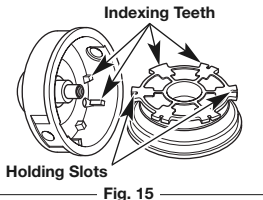

Fig. 15
- Check the indexing teeth and holding slots for wear (Fig. 15). If necessary, remove burrs or replace the inner reel and outer spool.